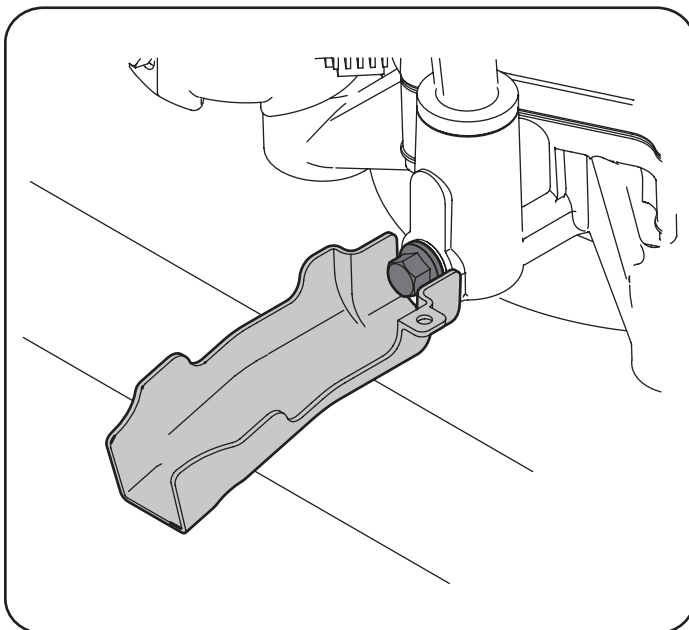

Figure 20
4. Snap the small end of oil drain sleeve onto the oil sump. See Figure 20.